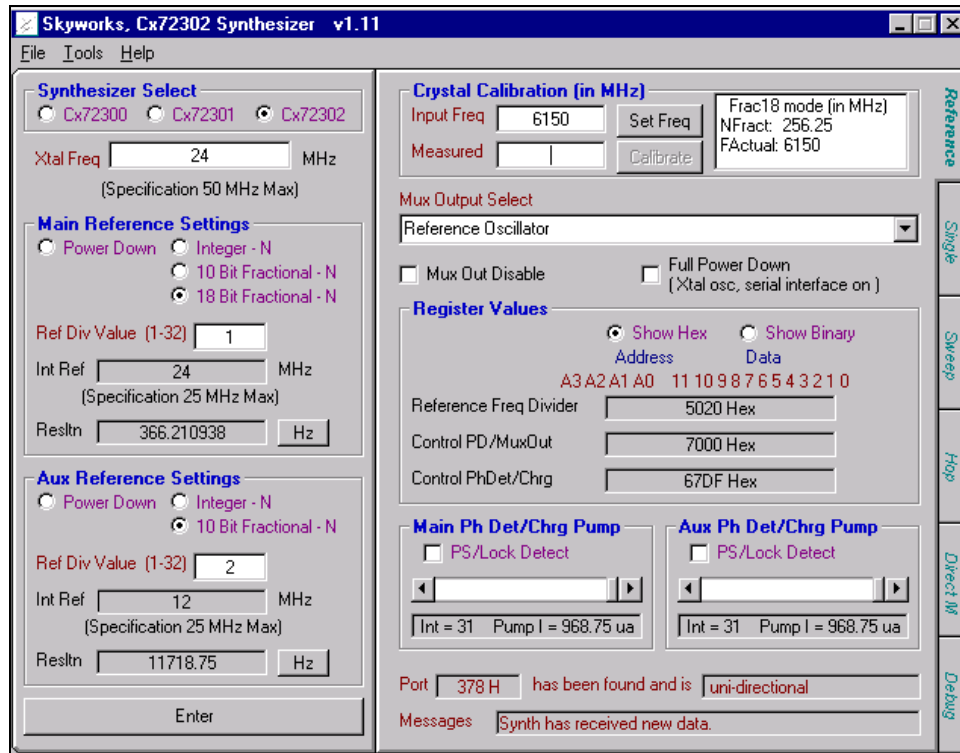

Figure 1. Software Interface Window:Reference Tab
3. Click the **Reference** tab of the software interface window (see Figure 1).